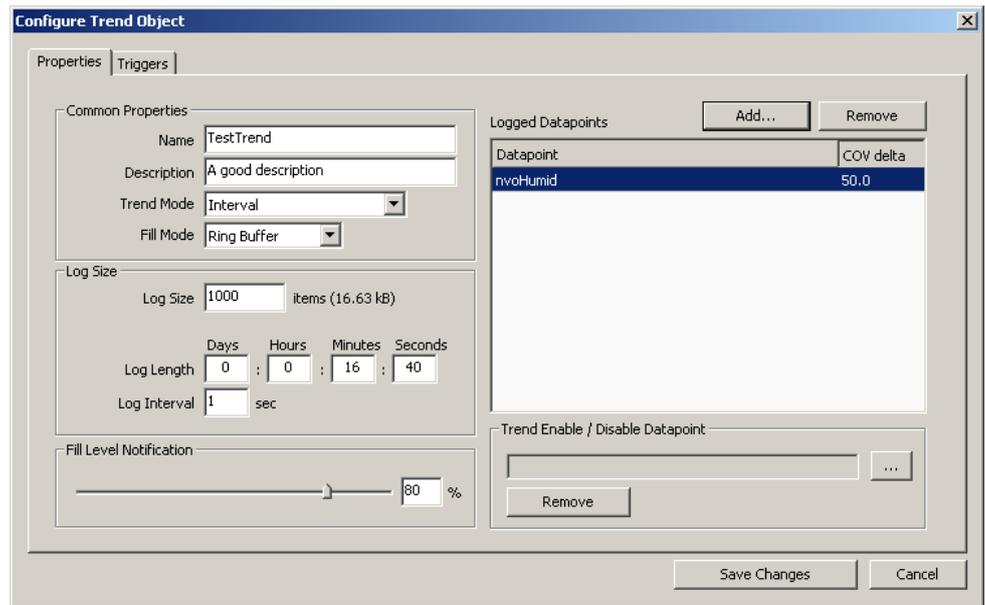

Figure 127: Basic Trend Object Configuration.
- In the **Create New Trend Object** dialog (shown in Figure 127) enter a name and optionally a description for the trend log object.